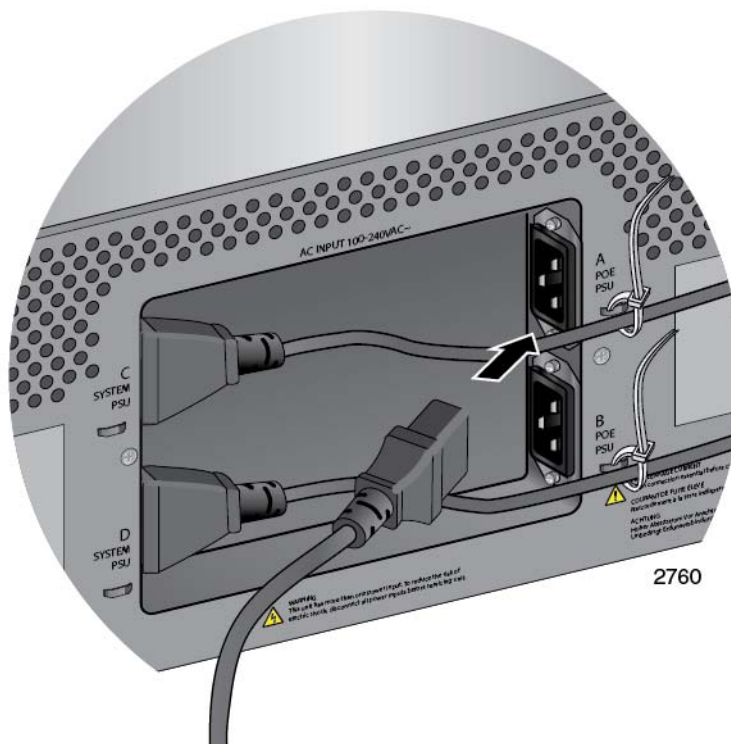

Figure 118. Connecting the AC Power Cord for the AT-SBxPWRPOE1 Power Supply
2. Plug the AC power cord that comes with the power supply into one of the plugs, as shown in Figure 118.